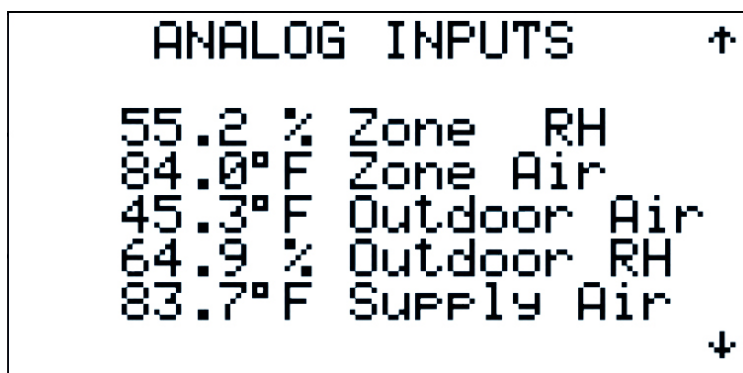

Figure 69
2.3.3.3.2 Analog Inputs (Figures 69 thru 77)